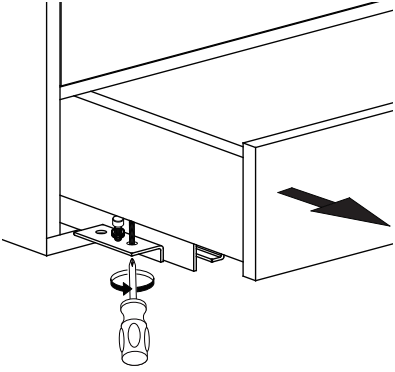

Fig. 5 - Removal
1. HiB recommends removing the drawers prior to installation. *See Fig. 5., overleaf.*